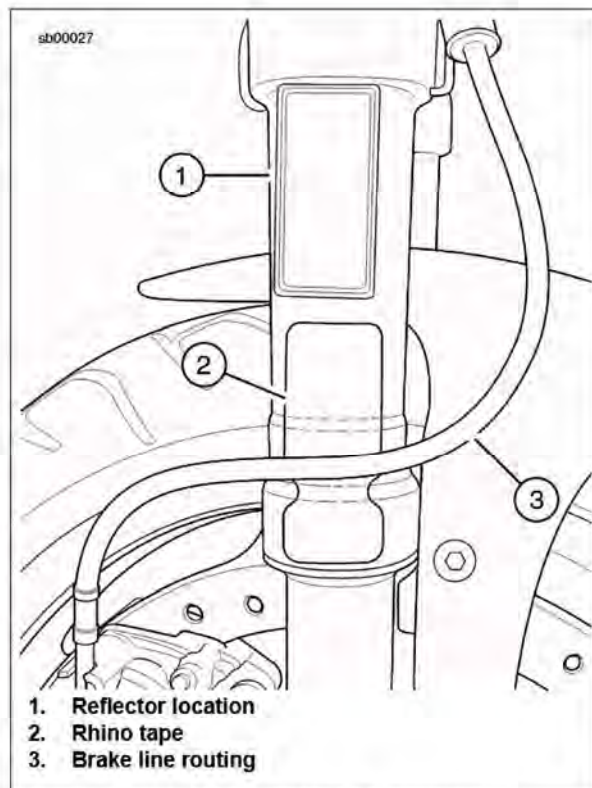

Figure 4. Reflector/Rhino Tape Locations
2. See Figure 4. Install the **new** reflectors (1) pressed up against the lower triple clamp.